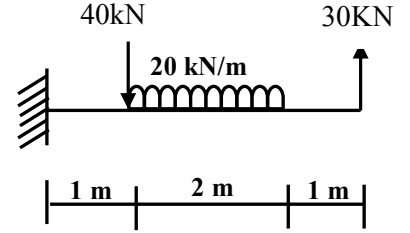

Figure-2 Q-3 (b)
- (b)** Draw shear force and bending moment diagram for a beam given in **figure-2**. **07**